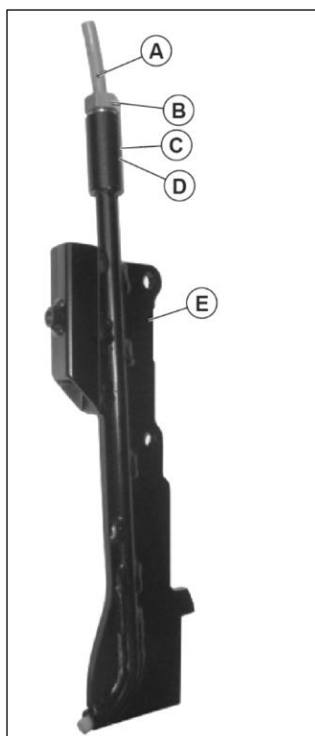

Fig. 4
1. O-ring (D)
2. Spacer (C)
3. Lock nut (B)
With the nut slightly loose, insert the tube (A) until it exits at the bottom part for about 5 mm. At this point, the nut is tightened with an. 17 wrench and consequently the tube is locked. In Fig. 4 you can see the cable guide properly assembled. You can then proceed to secure the cable guide to the machine structure.